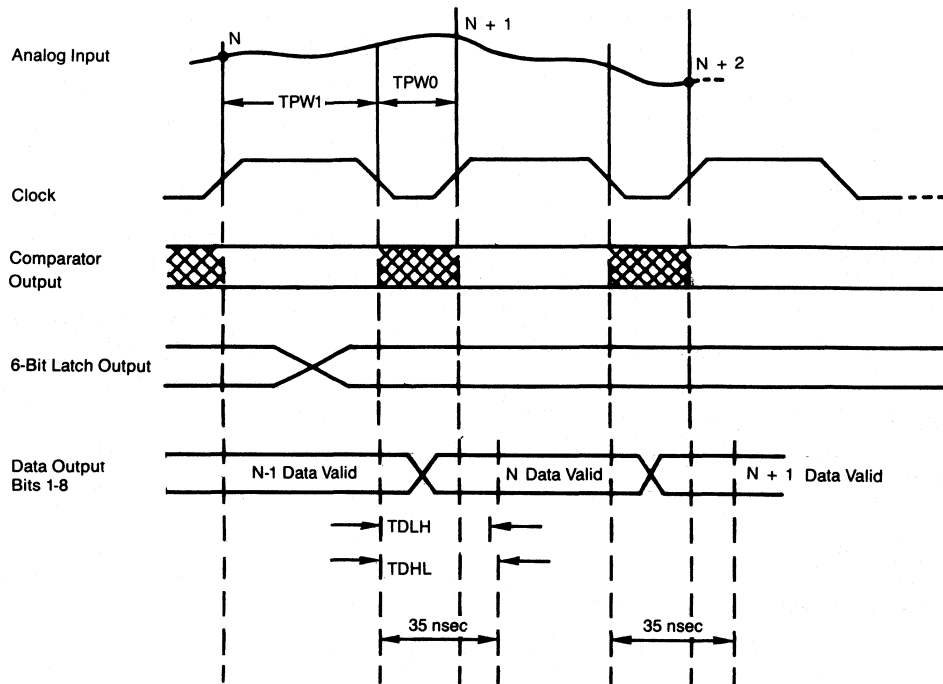

Figure 4: ADC-304 Timing Diagram
- The analog input signal is sampled on the positive-going edge of CLK. Corresponding digital data appears at the output on the negative-going edge of the CLK pulse after a small delay of 35 nSec. maximum (TDLH, TDHL). Refer to the Timing diagram, Figure 4, for more information.
The ADC-304 consists of 4 sections: the resistor string, the comparator latches, the encoder, and the latchable output buffer. Refer to the block diagram (Figure 1) and timing diagram (Figure 4) as needed.